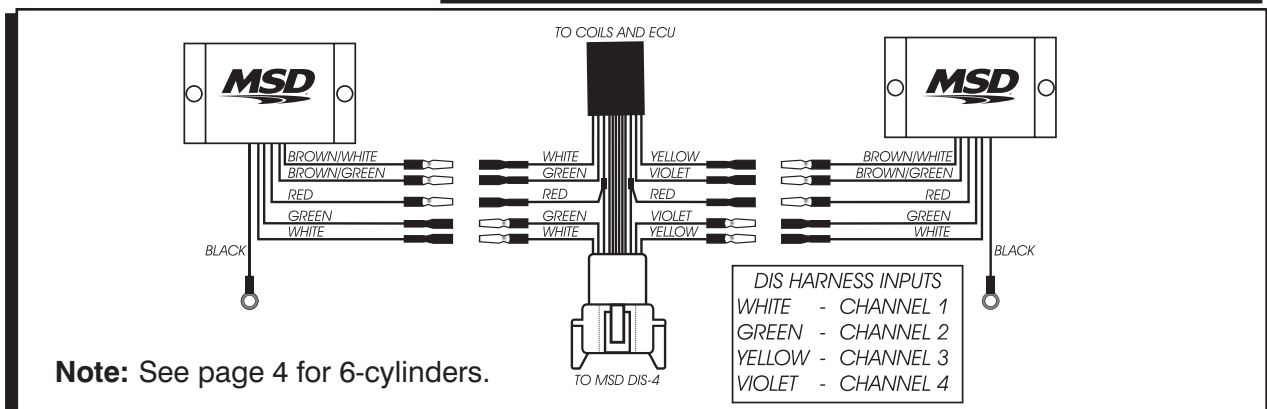

Figure 1 Installation to an MSD DIS-4 Ignition using Four Channels.
**Note:** The Wiring Harness that goes to the coil packs and ECU of your DIS Ignition should be equipped with several bullet connectors. This allows for easy installation of the Adapter as shown in Figure 1.
The Adapter has six wires that need to be connected. The chart shows each wire's application. Figure 1 shows how to wire the Adapter to the DIS Ignitions.